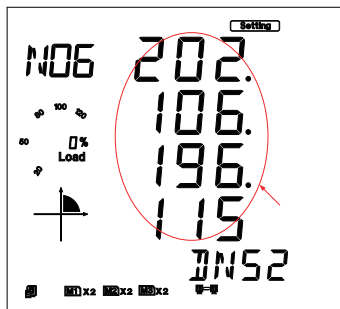

Fig 5-34
8. Set DNS Secondary Server in the sixth setting page, such as 202.106.196.115. Press the "V/A" key to go to the setting page. Users may set the parameters pointed out in Figure 5-34. The cursor starts at the first digit. After setting the DNS Secondary Server, press the "V/A" key to accept. Press the "P" key to go to the seventh setting page for the Modbus-TCP port.